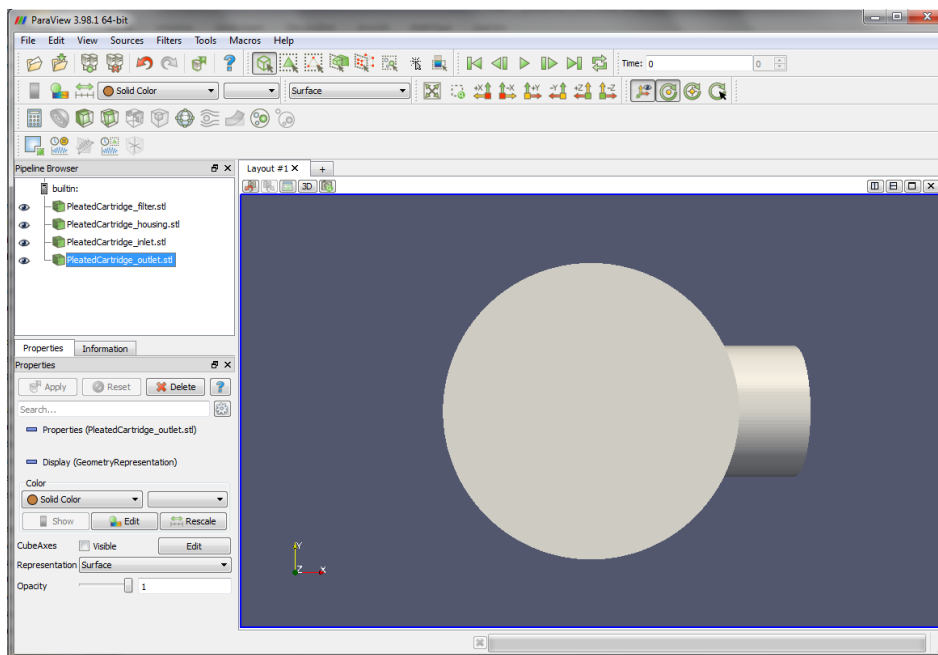

Figure 6.1-2: Pushing **Apply** in the **Properties** tab makes the STLs visible.
- In the “Properties” tab down on the left of the main window, press the button **Apply**. The STL surfaces appear in the viewer window on the right and the files in the Pipeline Browser window are marked with an eye symbol, meaning that they are visible (see Figure 6.1-2).